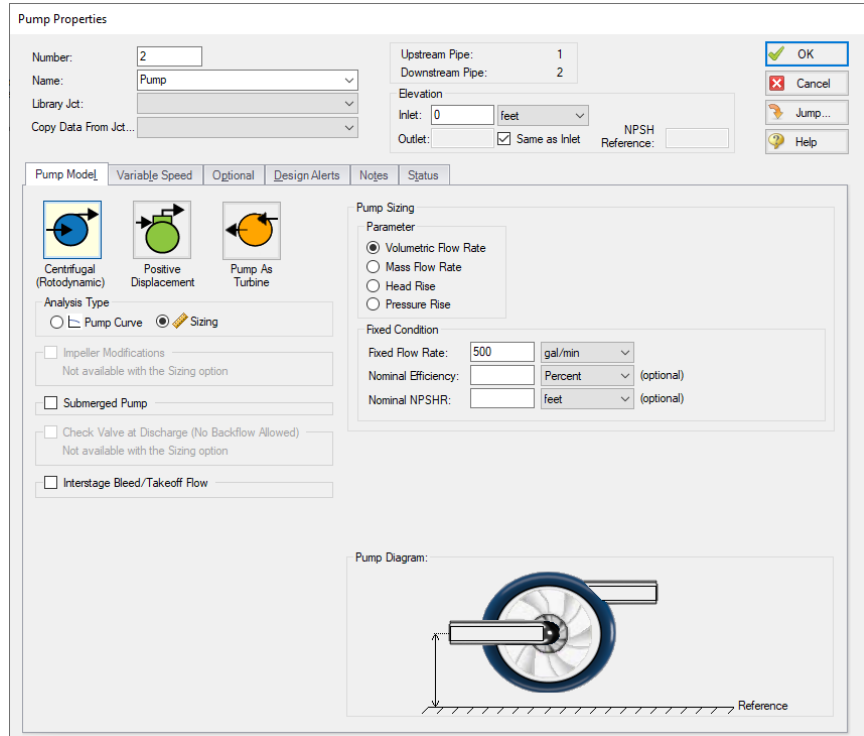

Figure 2.17 Properties window for the J2 Pump
- **Next, open the Properties window for the J2 Pump junction.** Remember this example sizes a centrifugal pump. By default, the junction assumes a Centrifugal (Rotodynamic) pump, so select Sizing for the Analysis Type. For the Pump Sizing Parameter, use Volumetric Flow Rate, and enter the Fixed Flow Rate as 500 gal/min. Set the junction Inlet Elevation as 0 feet (see Figure 2.17). Click OK to close the window.